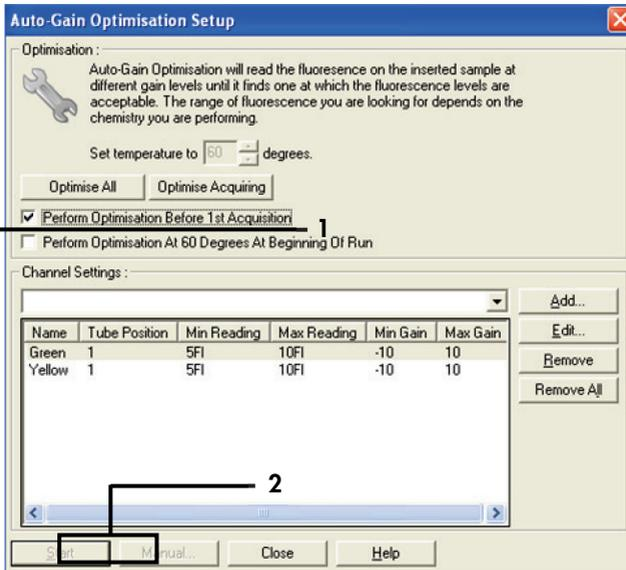

Figure 31. Selection of Green and Yellow channels. 1 = "Perform Optimization Before 1st Acquisition" check box; 2 = "Close."
14. Check the **Perform Optimization before 1st Acquisition** box, then click **Close** to return to the wizard (Figure 31).